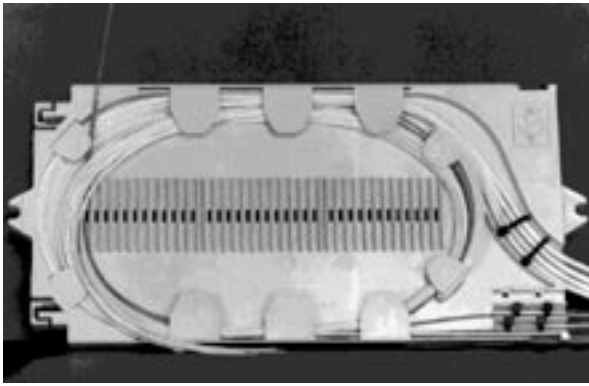

FIGURE 12 - ROUTE FIBERS WITHIN SPLICE TRAY
6.07 Route the Pigtail and feeder cable fibers one complete turn around the Splice Tray and into the splice groove furthest from the entry point of the tubes. (Figure 12)